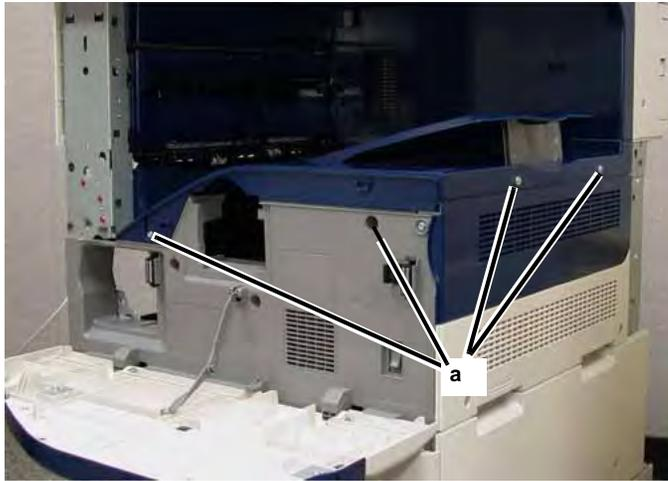

Figure 4 Removing Screws
5. Remove the Top Cover (Figure 4).
- a. Remove the Screws (4).